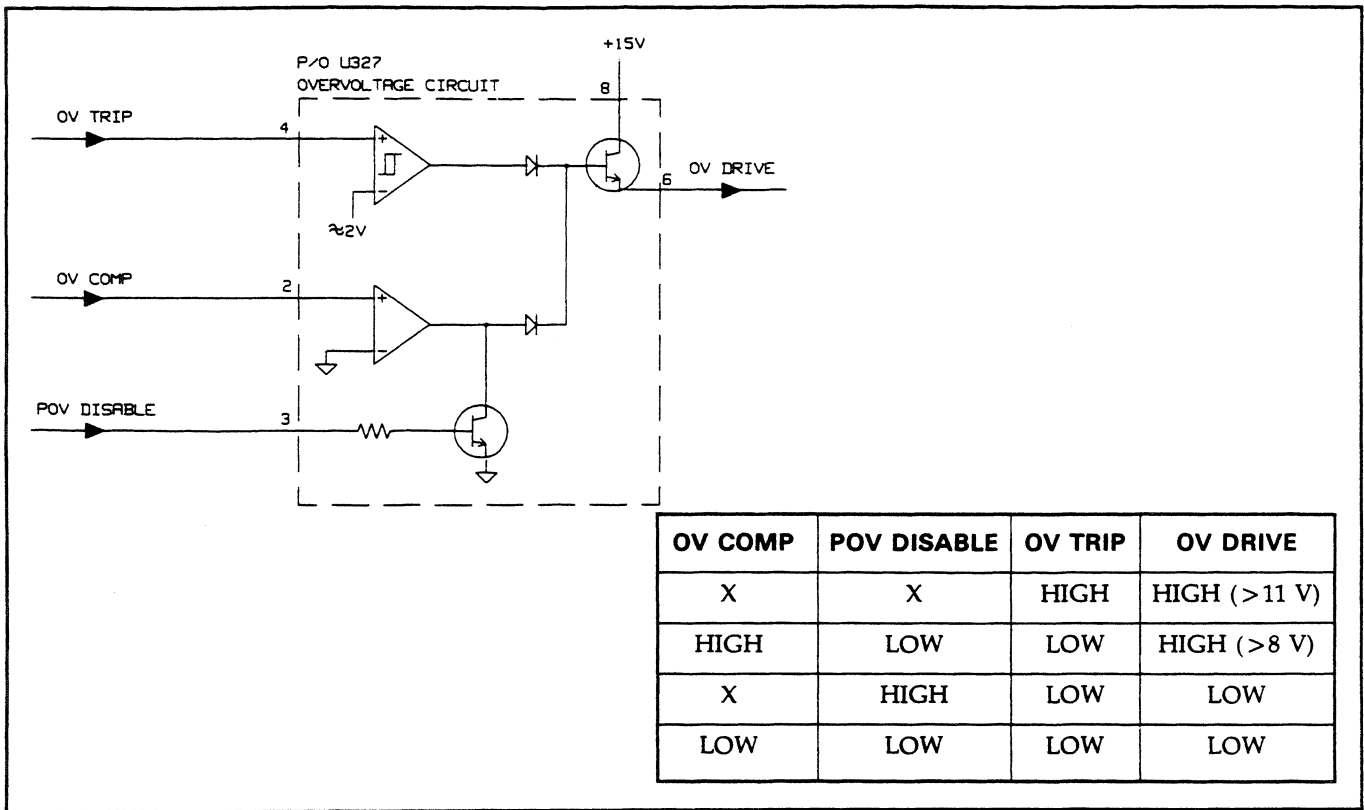
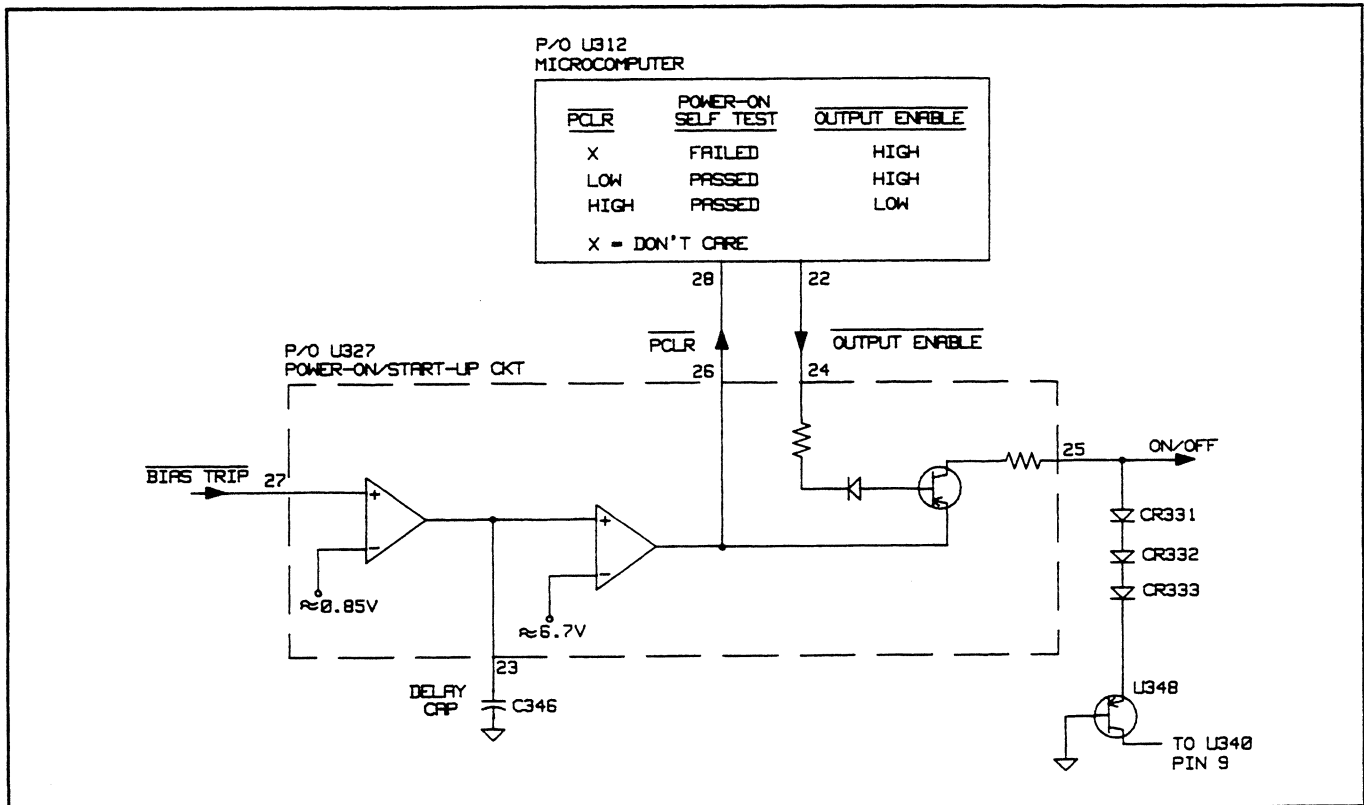

Figure 4-15. Signal Processor U327, Overvoltage Circuit, Simplified Schematic Diagram
Figure 4-16. Signal Processor U327, Power-On/Start-Up Circuit, Simplified Schematic Diagram
Proper operation of the IC can be verified by measuring the pin voltages and using Table 4-17 which lists the voltage levels and defines the low and high states. This information is used in conjunction with the pin description (paragraph 4-31) and simplified schematics to troubleshoot the signal processor's overvoltage (Figure 4-15), power-on/start-up (Figure 4-16), and status monitor circuits (Figure 4-17). Additional troubleshooting information for the status monitor circuit is given in paragraph 4-32 and Figure 4-18.
**OV DRIVE (pin 6):** This output signal is a function of inputs: OV COMP, POV DISABLE, and OV TRIP. When OV DRIVE goes High, it fires the SCR in the power module. The OV DRIVE pin voltage will be >8 V when tripped from OV COMP and > 11 V when tripped from OV TRIP (see Figure 4-15).
**DELAY CAP (pin 23):** When BIAS TRIP (pin 27) is High, this signal causes a slow charge of an external delay capacitor toward the DELAY CAP High level which, when reached, causes PCLR (pin 26) to go High. When BIAS TRIP is Low, this signal causes a quick discharge of the external delay capacitor (see Figure 4-16).
**ON/OFF (pin 25):** This output pin goes High when  $\overline{\text{PCLR}}$  (pin 26) is High and  $\overline{\text{OUT ENABLE}}$  (pin 24) is Low (see Figure 4-16). When High, the ON/OFF line enables the control circuits and current sources of the output board which allows power to reach the output terminals.
**PCLR (pin 26):** This output goes High when  $\overline{\text{DELAY CAP}}$  (pin 23) goes High (see Figure 4-16). When  $\overline{\text{PCLR}}$  is High and  $\overline{\text{OUTPUT ENABLE}}$  (pin 24) is Low, ON/OFF (pin 25) goes High.